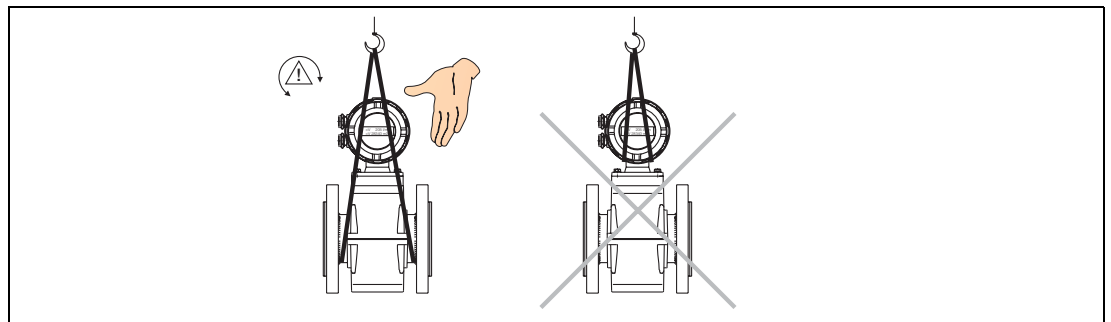

Fig. 2: Transport of Flanged Instrument]
- when transporting flanged instruments please use lifting straps and position them around both process connections (Fig. 2). Chains are to be avoided since they might damage the housing.